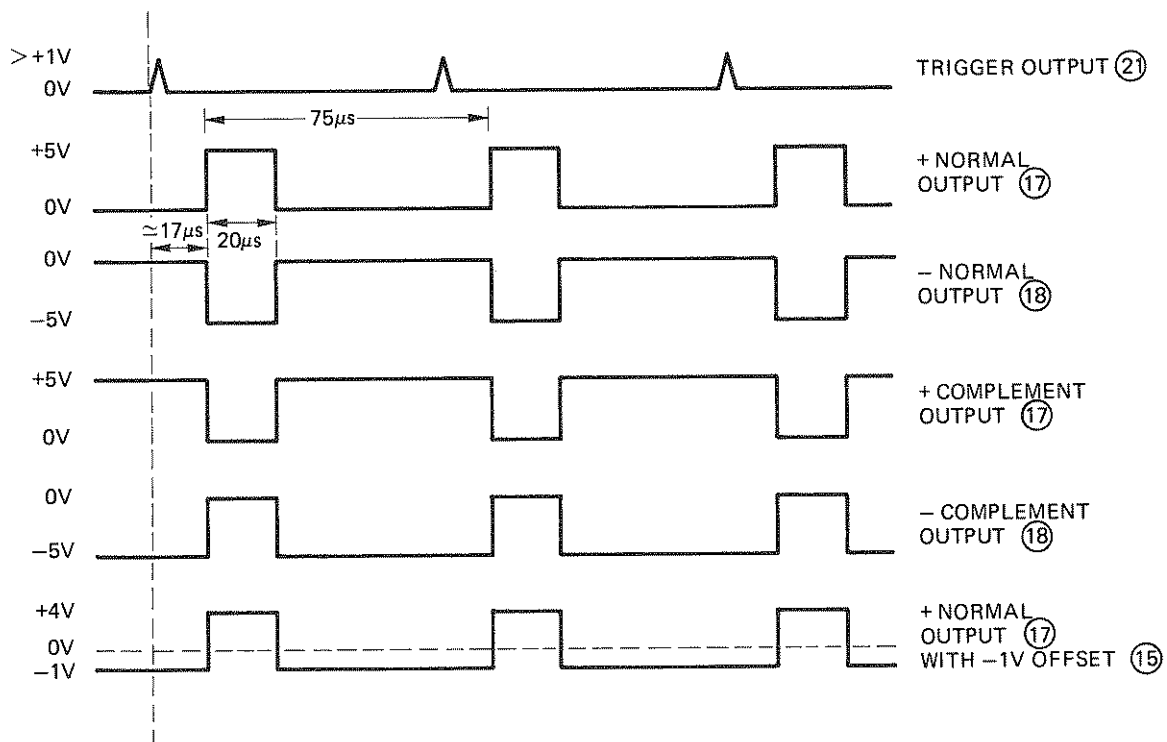

Figure 3-6. Output pulses in normal internal trigger mode
3-16 The output pulses should appear at the pulse OUTPUT (+) (17) and pulse OUTPUT (-) (18) as shown in Figure 3-6 according to the setting of the NORM/COMPL switch (19) and the OFFSET verniers (11) and (15).